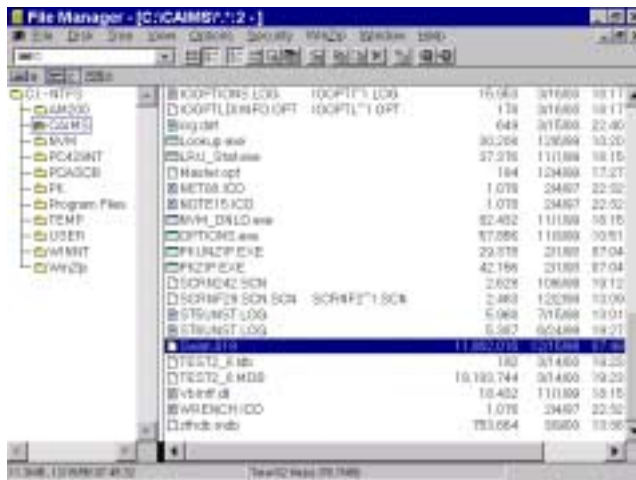

Figure 8 File Manager
10. In the C:\CAIMS directory, select the LDI file you just copied. (e.g. Swan.019) See Figure 8.